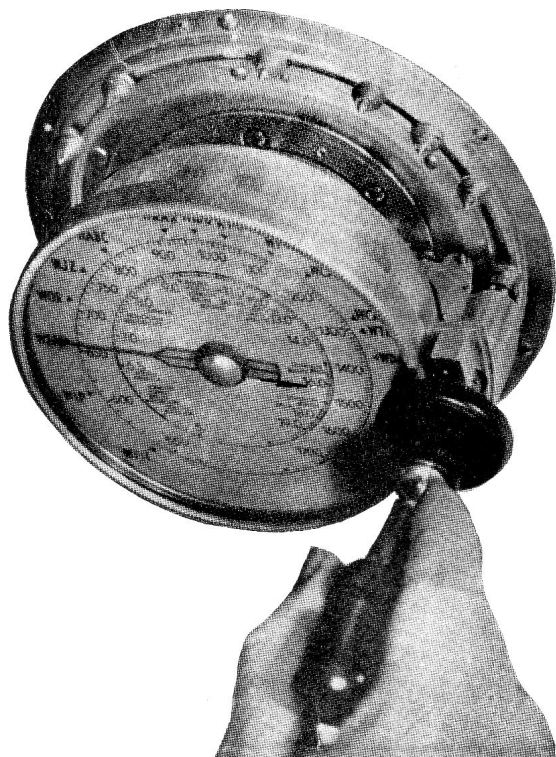

Fig. 2—Tuning Handle and Wrench Engaging Stop
2. Holding knob in this position, insert the Philco Wrench, Part No. 45-2475, in the hole of the tuning knob until it engages the stop screw head. (See Fig. 2.)